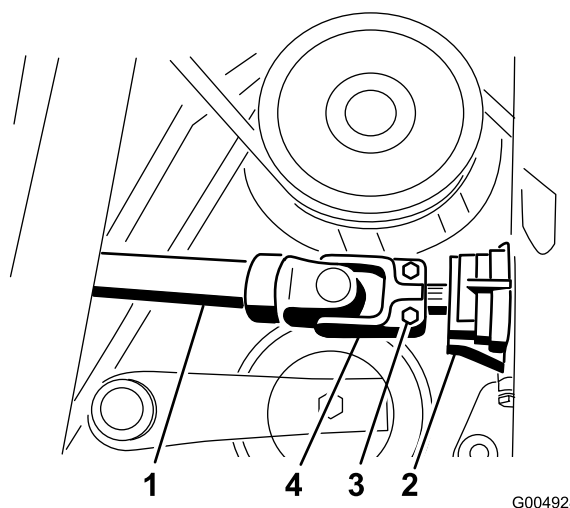

Figure 101
10. Remove the roll pin and loosen the two capscrews securing the drive shaft to the gearbox shaft (Figure 101). Slide the drive shaft off the gearbox shaft.